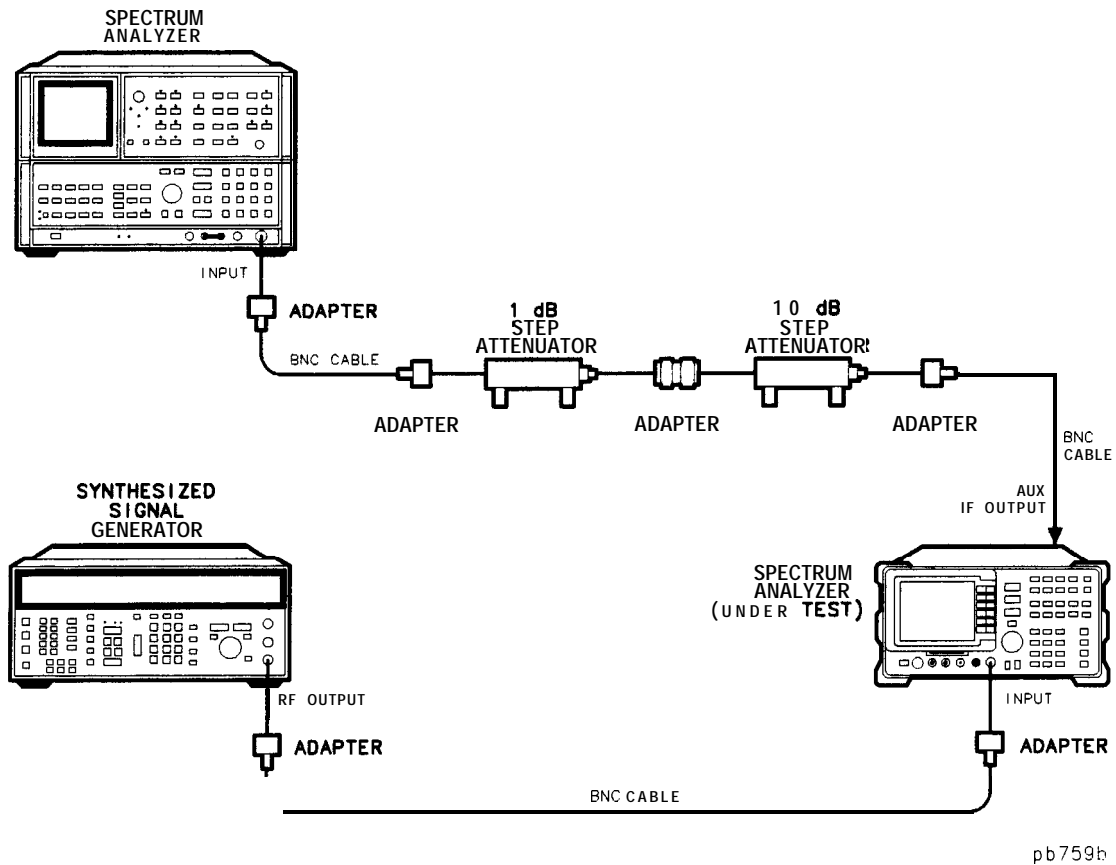

Figure 4-6. Error Vector Magnitude (EVM) **Test Setup**
1. Connect the equipment as shown in Figure 4-6. Set the two step attenuators to 0 dB attenuation.